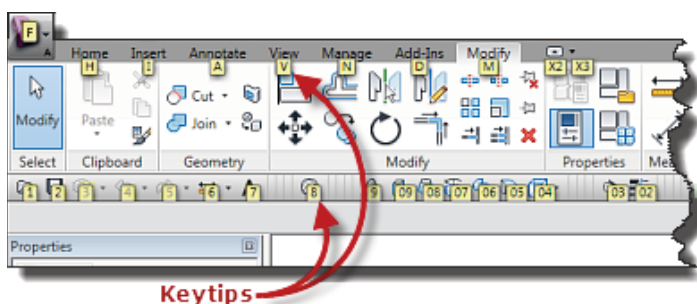

Figure 13 - Keytips
8. Keytips is another way of accessing the Application menu, Ribbon tabs and the QAT by keyboard. When you press the Alt key, little square boxes with preset letters or numbers appear (Figure 13). It stays there till you press any key or click the mouse. Pressing